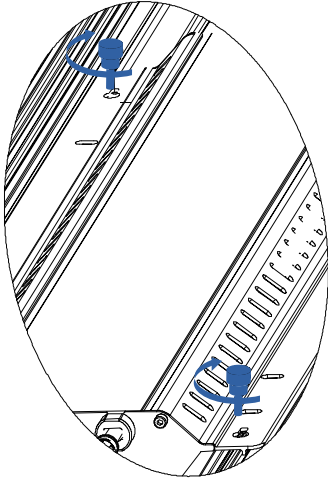

Fig. 8
d. Once the driver is in position, make sure to screw in the 2 orange driver fasteners (Part F). This step is important to secure the driver in place, see Fig. 8.